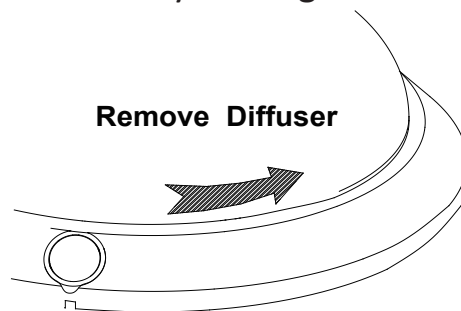

Fig. 2
- Remove the diffuser by turning it anticlockwise (Ref. to Fig.2).